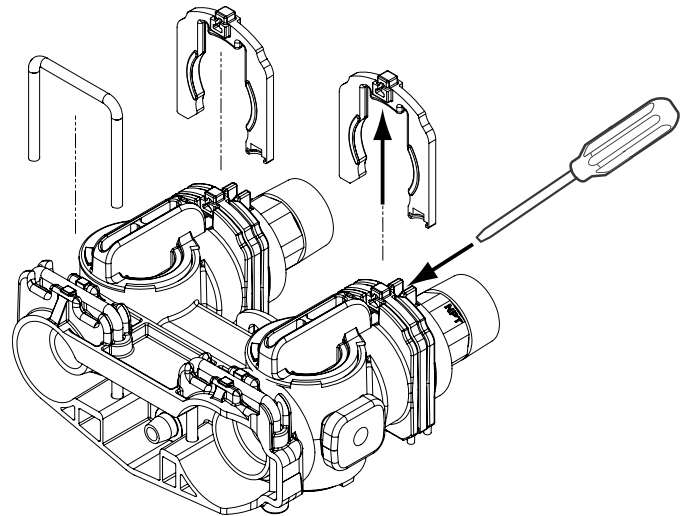

Figure 7 Connector Assembly
1. Locate parts and a roll of plumber's tape. The plumbing adapters should be removed (Figure 7 Connector Assembly).
3. Remove the clip by inserting a flat blade under the top center of the clip and lifting (prying up) (Figure 7 Connector Assembly).